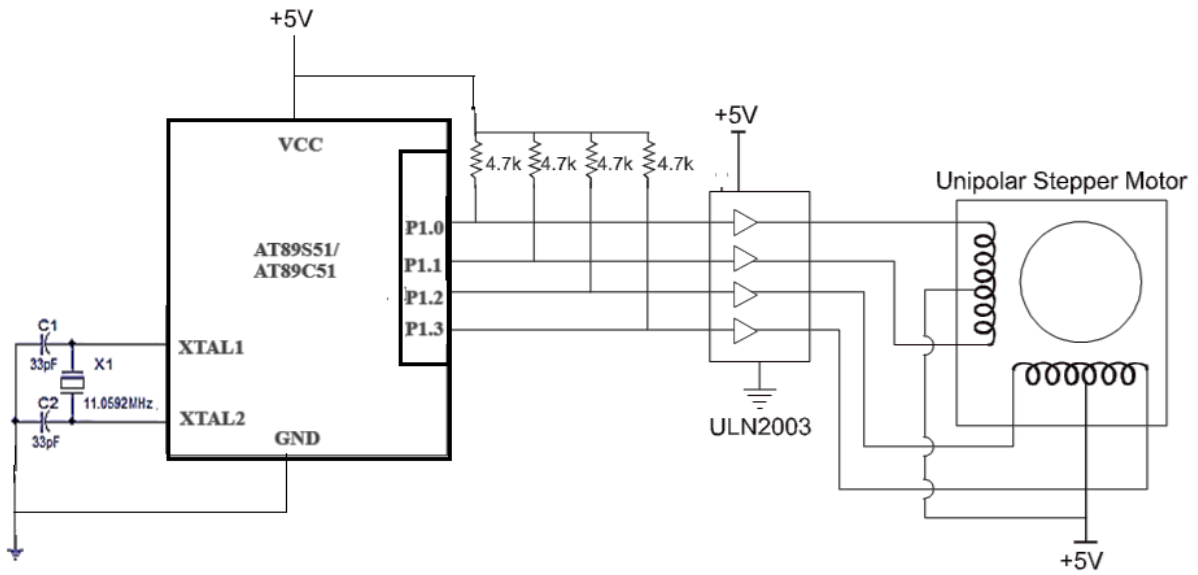

Fig 25.3 8051 connection to stepper motor
8. Interface stepper motor to microcontroller as per circuit diagram shown in fig 25.3